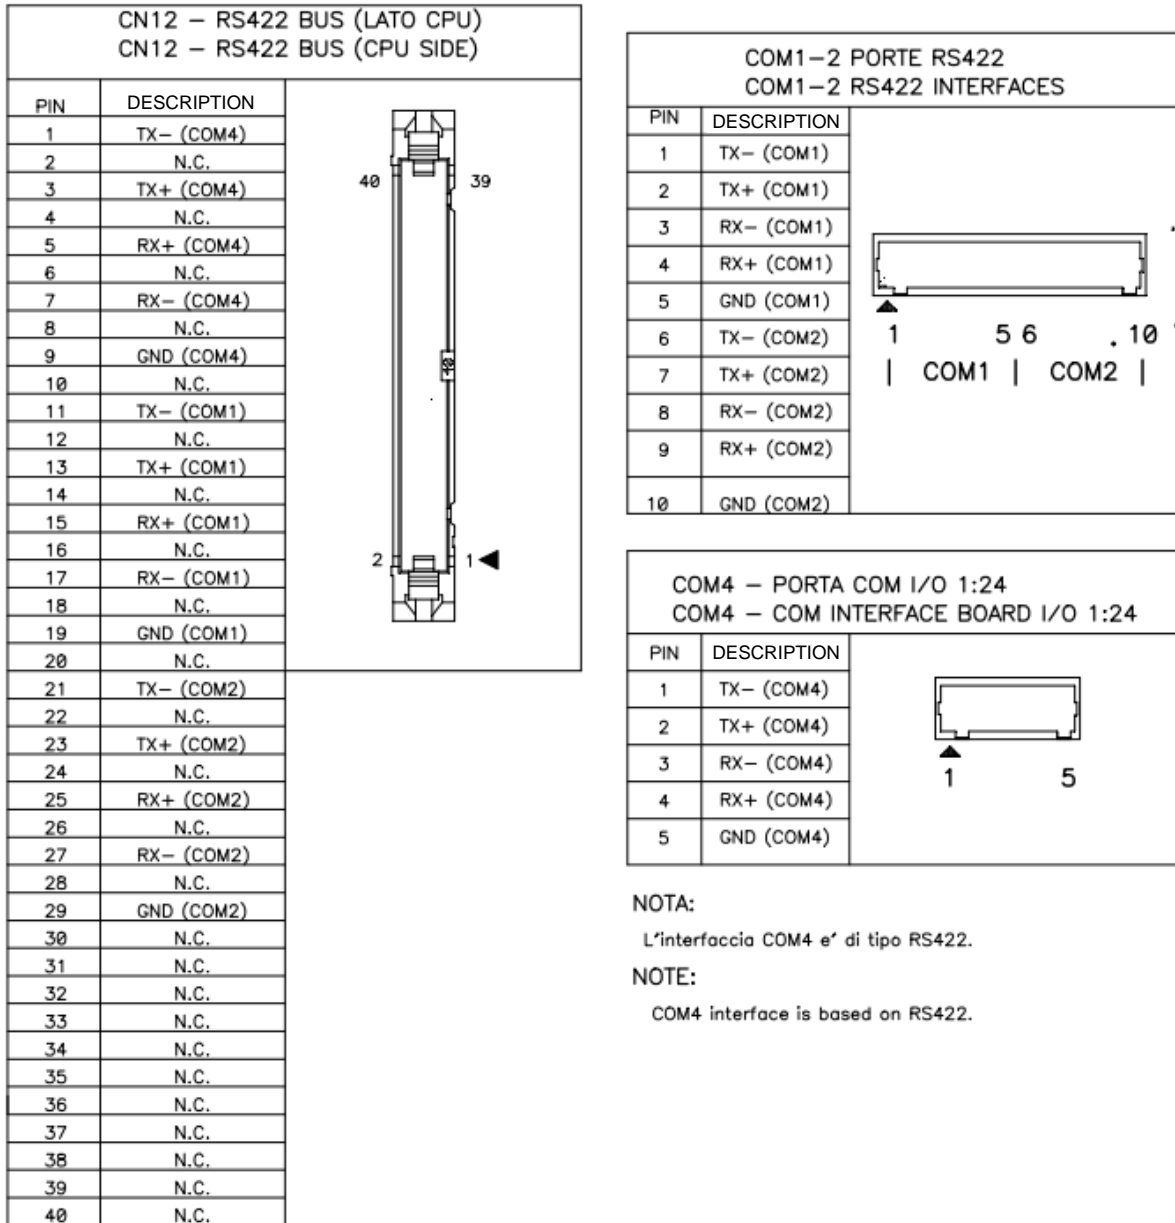

Figure 1-38
8. The **DD** command displays the current driver configuration. Figure 1.38 - driver configuration